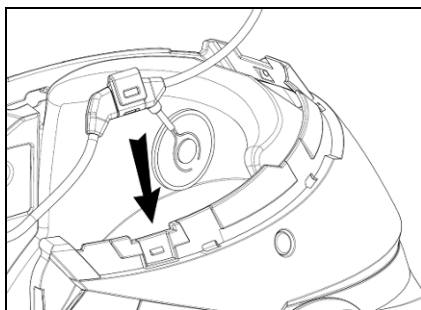

Fig. 3
- Fix the cable inside the helmet and make sure the right fixing clip snaps into its housing (Fig. 3).